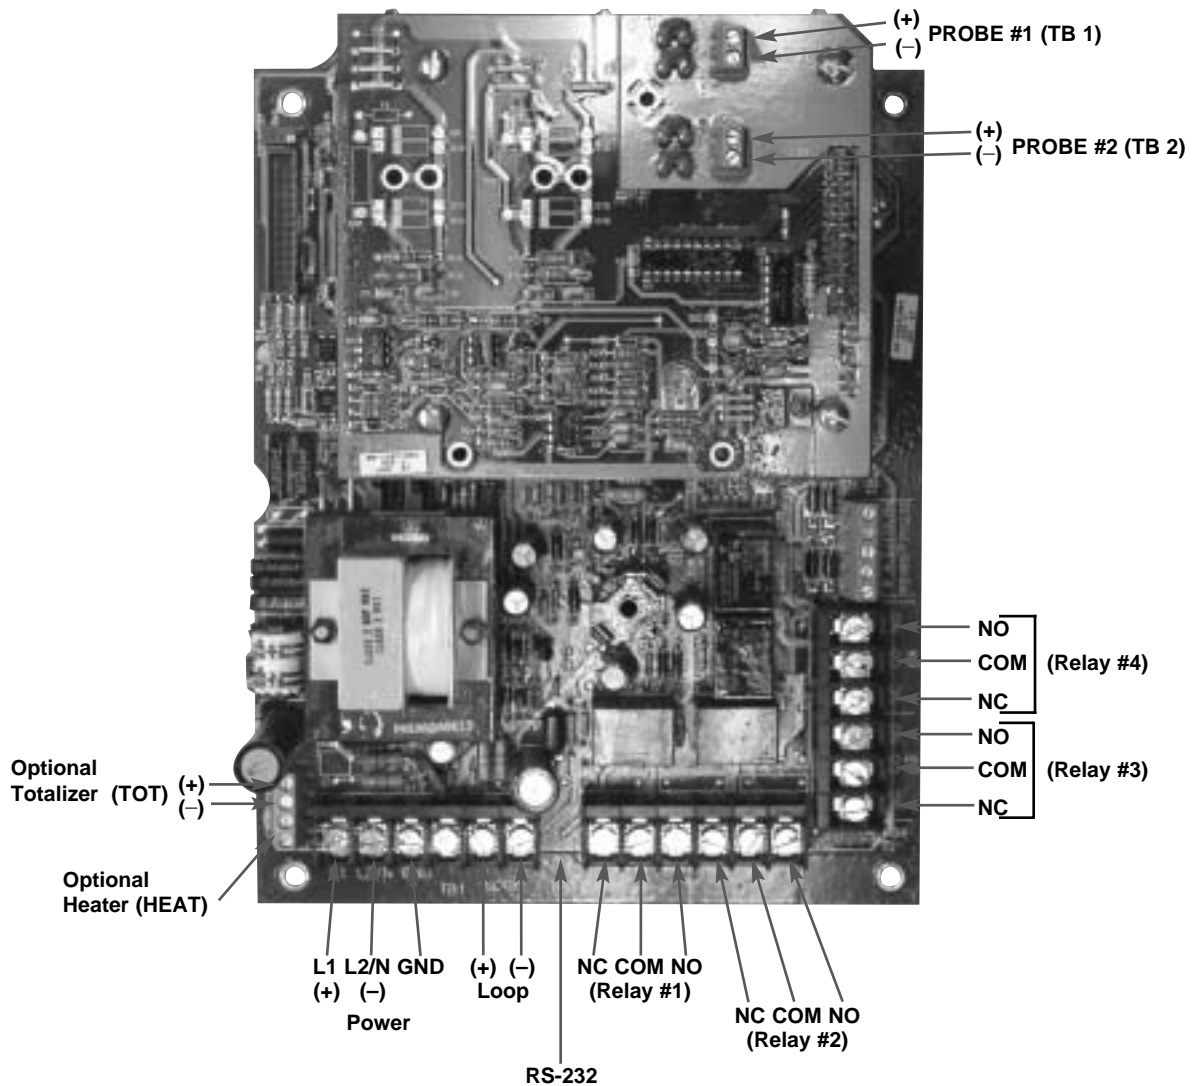

Figure 6
2. The main PC board (mother) is marked for 120/240 VAC (L1, L2/N, GND) and 24 VDC (\pm) power connections. Ensure proper connections are made on these three terminals. Refer to Figure 6. Spade lugs should be used. For optimum operator safety, observe the wiring colors listed in Table 1.
3. Connect the positive supply wire to the (L1) terminal, the negative (neutral) supply wire to the (L2/N) terminal on the transmitter, and the ground wire to the (GND) terminal. Refer to Figure 6 on page 5.
Refer to Figure 6 on page 5 for terminal locations.
Connect 4–20 mA output wiring to (+) and (–) terminals of TB1 on the main printed circuit board. Refer to Figure 6. Ensure proper polarity by connecting red wire to (+) terminal and black wire to (–) terminal. The shield should be connected to earth ground to ensure proper noise immunity.